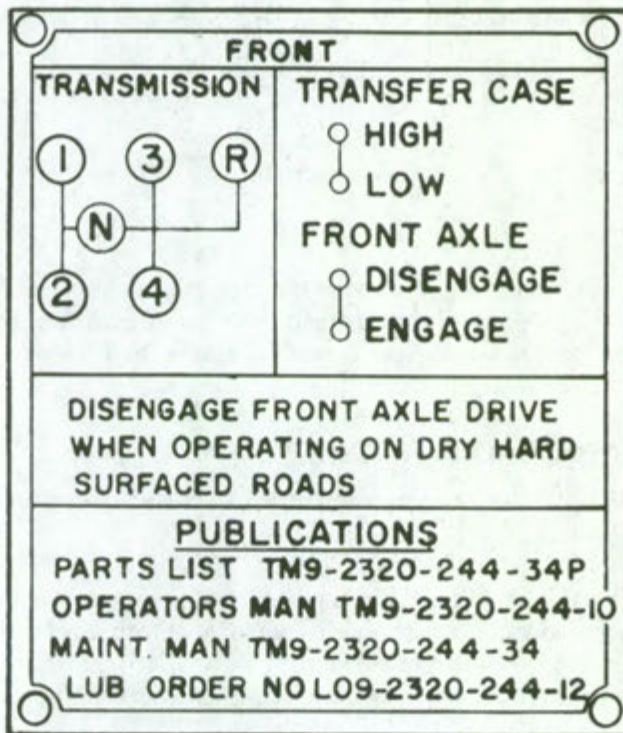

Figure 2. M715 Series.
3. Shifting the M715 from 2-wheel drive to 4-wheel drive. Let up on the accelerator if the vehicle is moving, depress the clutch, and shift the front axle drive lever to the rear (ENGAGE) position (figure 2).
4. Shifting the M715 from 4-wheel drive high range to 4-wheel drive low range. Slow the vehicle to a speed not exceeding 4 to 5 mph, depress the clutch, and move the auxiliary range lever to the rear (LOW) position (figure 2).
5. Shifting the M715 from 4-wheel drive low range to 4-wheel drive high range. Slow the vehicle to a speed not exceeding 4 to 5 mph, depress the clutch, and move the auxiliary range lever to the forward (HIGH) position (figure 2).
6. Shifting the M715 from 4-wheel drive to 2-wheel drive. Let up on the accelerator if the vehicle is moving, depress the clutch, and shift the front axle drive lever to the forward (HIGH) position. The auxiliary range lever must be in the forward (HIGH) position before the front axle drive can be disengaged (figure 2).